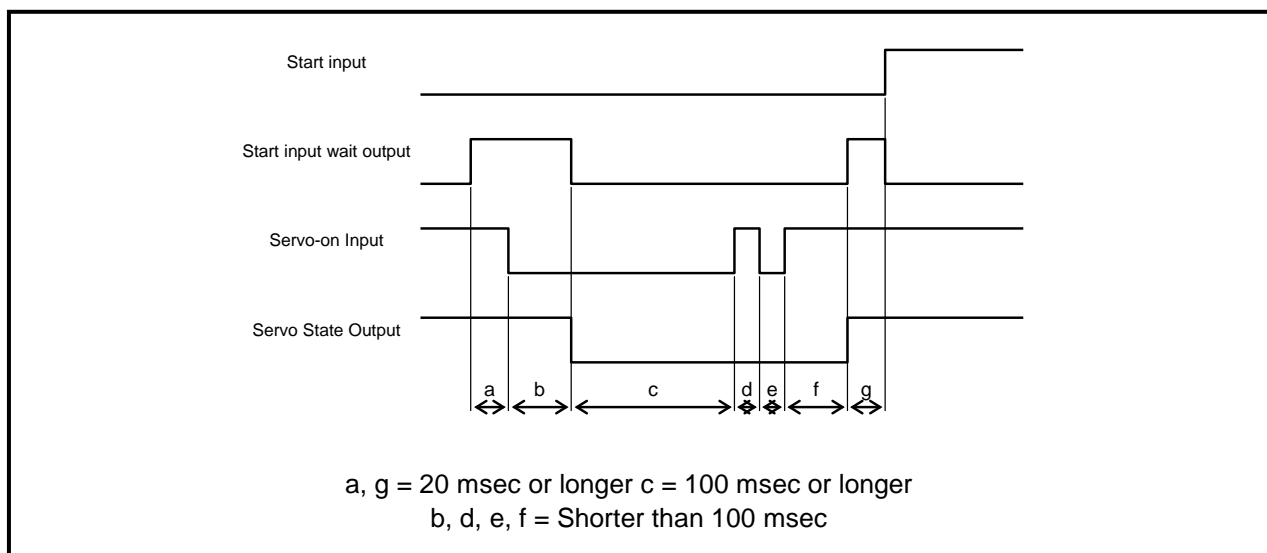

Fig. 5.11 Timing Chart of Servo-on Input
- Leave at least 100 msec for the servo-on/off switching timing to avoid malfunctioning. No input is accepted in intervals d or e shown in Fig. 5.11.